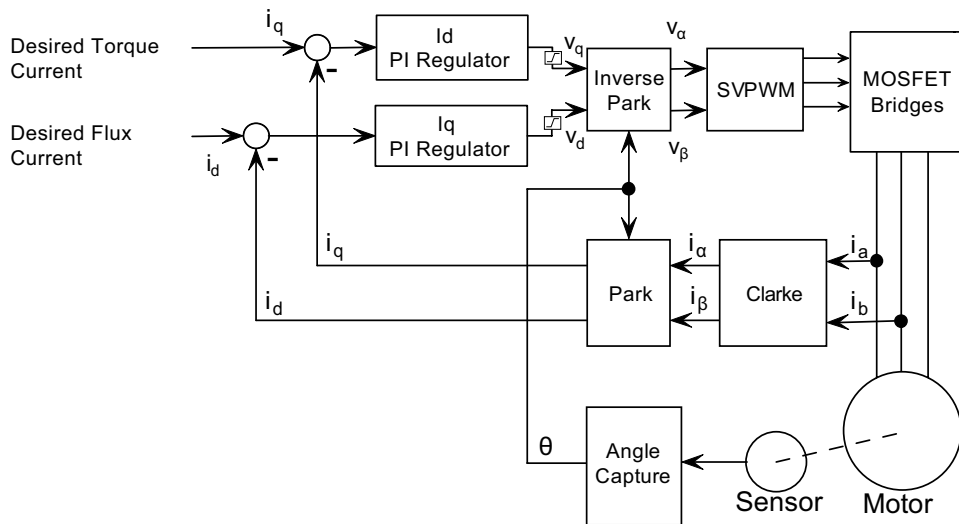

FIGURE 8-26. FOC operation
Field Oriented Control is available on most models of Roboteq motor controllers. It uses a classical implementation as described in the figure 8-26. The current in the motor phase is captured, along with the rotor's angle. From this are computed the useful I_q and wasteful I_d . Two Proportional-Integral (PI) regulators then work in parallel to control the output voltage amplitude and phase so that the desired Torque (I_q) and Flux (I_d) currents are met. The desired Flux current is typically set to 0 for brushless dc motors, and so the regulator will work to totally eliminate the Flux current. The output of the PI d-q axis current controllers yield the d-q axis reference voltage commands (V_d , V_q) applied to the motor through the Space Vector Pulse Width Modulation (SVPWM) technique.